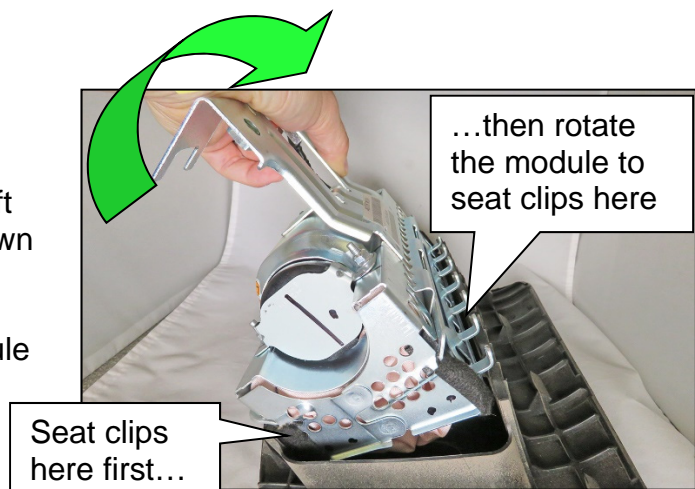

Figure 18
- Seal the module clips into the left side of the module cover as shown in Figure 18.